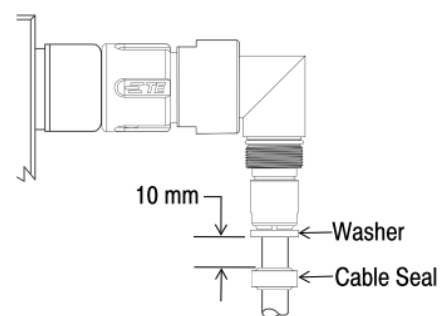

Figure 15
20. Slide the right-angle adapter against the threads of the housing and begin threading the adapter onto the housing. After about two turns of the adapter nut, the splines of the nut will contact the splines of the housing. Stop threading the nut as soon as that contact is felt. See Figure 15, Detail A.
22. Using a 21-mm open-end wrench, tighten the adapter nut to a torque of 6 to 8 N·m. See Figure 15, Detail B.
23. Apply 2 to 3 drops of the threadlocker to the threads at the **front** of the collet sleeve. See Figure 15, Detail B.
24. Slide the collet sleeve over the crimp assembly and thread the sleeve into the right-angle adapter. DO NOT allow the cable to twist at any point during the assembly. See Figure 15, Detail C. Using the 13-mm open-end wrench, tighten the collet sleeve to a torque between 3 and 4 N·m.
25. Using an applicator swab, apply a *thin film* of o-ring grease to the adapter o-ring, the threads at the back of the collet sleeve, and the four ramps of the collet sleeve. Refer to Figure 15, Detail C.
26. Slide, then thread the collet nut onto the collet sleeve. See Figure 15, Detail D. Using the 13-mm open-end wrench, tighten the collet nut to a torque between 1 and 2 N·m.
27. Slide the washer against the collet sleeve. See Figure 15, Detail E.
28. Slide the cable seal over the cable until it is approximately 10 mm from the washer. See Figure 15, Detail E.